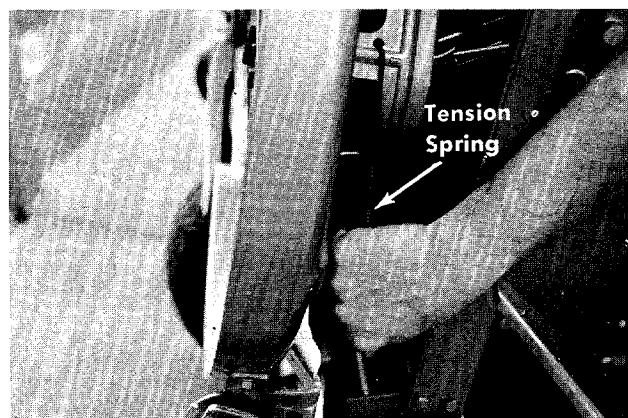

FIGURE 29. REMOVING TENSION SPRINGS
- Step 5. Unhook the tension springs on both sides of the deck. See figure 29.
- Remove the entire belt guard from the engine pulley by removing the two front engine bolts. See figure 29.